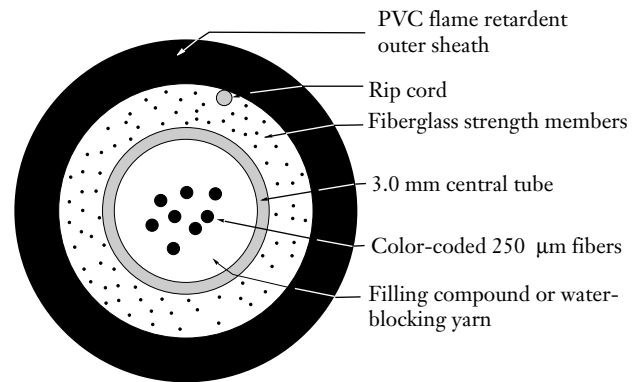

Figure 1
1.2 Corning Cable Systems FREEDM/LST cable is a rugged, craft friendly cable designed for use in indoor and outdoor environments. The cable contains between one and twelve fibers. The fibers are color coded and contained in a filled tube to ensure longitudinal water-blocking protection. Dielectric strength members around the central tube provide strength. The polyvinyl chloride (PVC) sheath provides for a lightweight and easily installable cable (Figure 1).